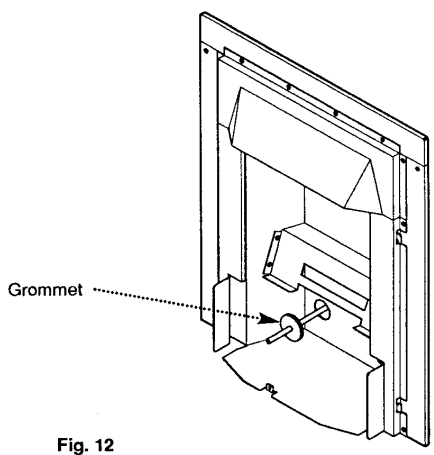

Fig. 12
3. When running the gas supply from the rear it is necessary to remove the grommet from the larger hole in the fire back panel. The grommet must be cut in order to accommodate the gas pipe and replaced as in Fig. 12.